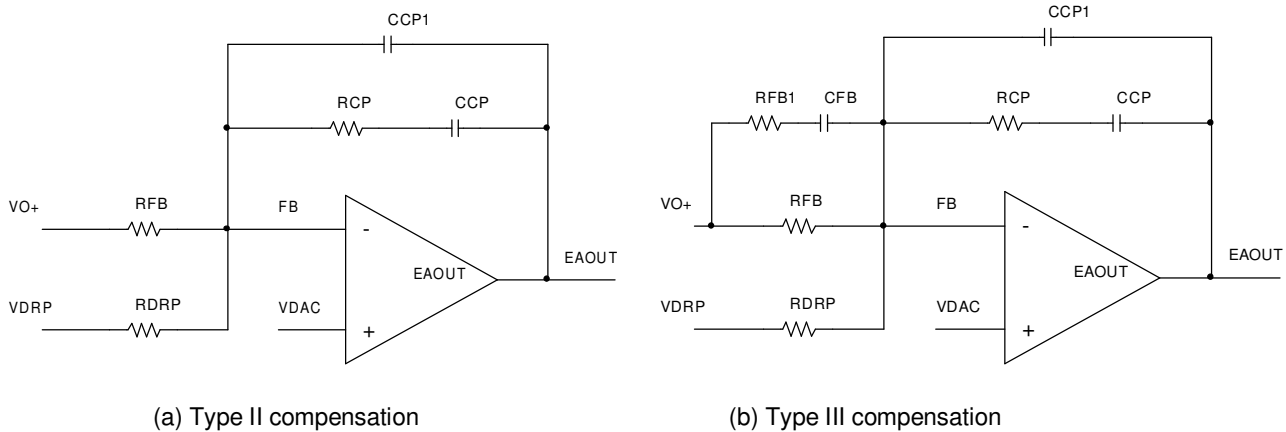

Figure 18. Voltage loop compensation network
Resistors RFB and RDRP are chosen according to Equations (15) and (16), and the selection of compensation types depends on the capacitors used. For the applications using Electrolytic, Polymer or AL-Polymer capacitors, type II compensation shown in Figure 18 (a) is usually enough. While for the applications with only ceramic capacitors, type III compensation shown in Figure 18 (b) is preferred.